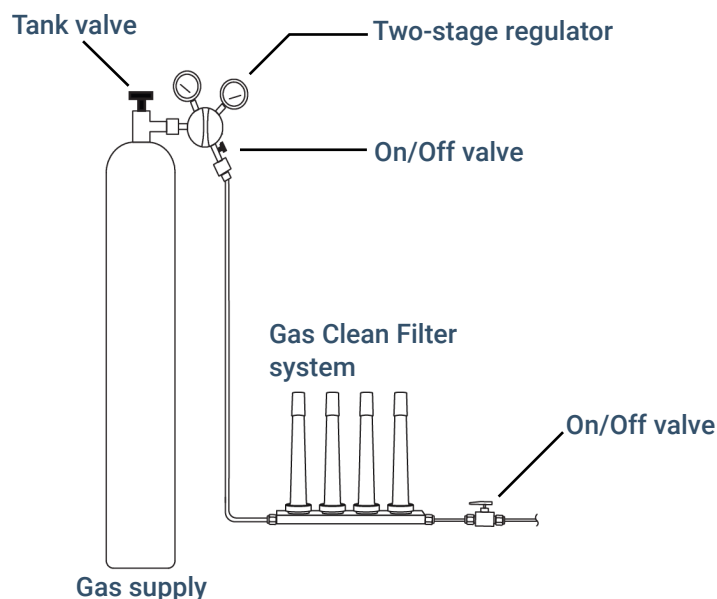

Figure 9. Plumb the gas supplies
1. Determine where you will install the traps in your supply tubing line. Figure 9 shows the recommended trap order for the carrier gas and the recommended locations for On/Off valves. Also see the *Site Preparation Guide*.